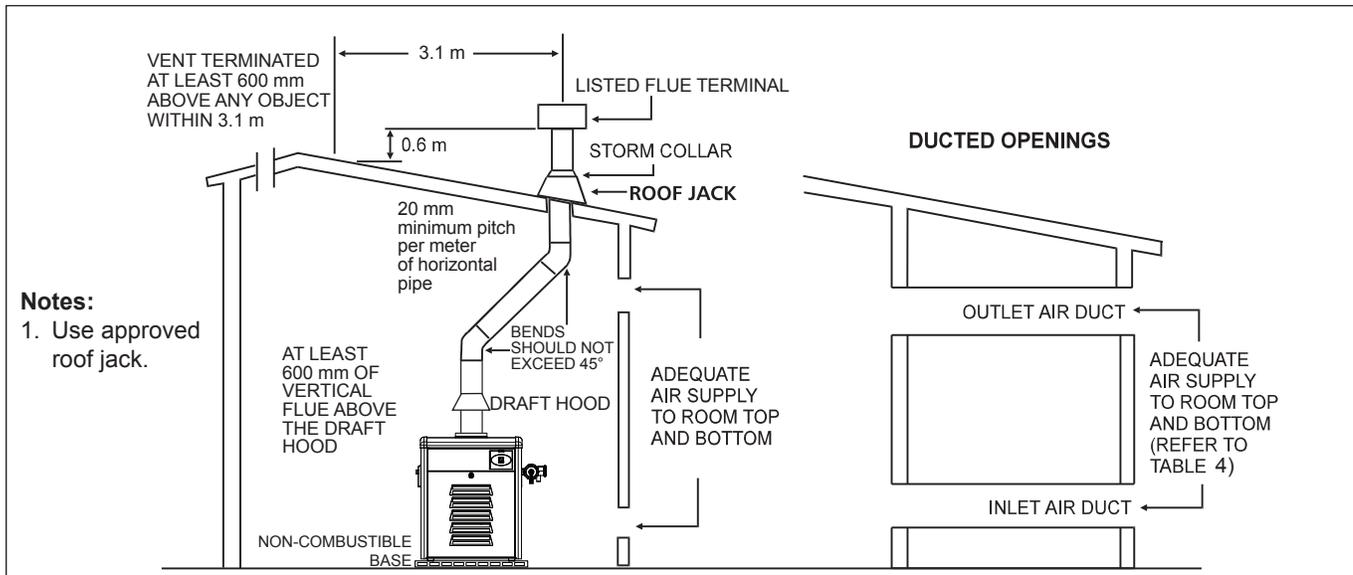

Figure 4. Indoor Installation Venting or Outdoor Shelter Venting
In general, the room in which a heater is installed should be provided with two (2) permanent air supply openings; one (1) within 300 mm of the ceiling, the other within 300 mm of the floor. All indoor installations must have uninterrupted openings to outside air for combustion, ventilation, and dilution of flue gases from inside the building, see Figure 4 and Table 4. Zodiac does not recommend indoor installations that do not provide combustion air from outside the building.
This heater is a natural draft appliance that must be installed with a draft diverter. This heater is not suitable for use with a balanced flue. Connect the draft diverter to a flue system of at least the same diameter, and end at least 0.6 meters above the highest point of the roof or other object that is within 3.1 m of the vent. Install a certified terminal which allows a full equivalent opening for flue products, see Figure 4. There must be at least 600 mm of vertical flue above the draft hood. Bends in the flue should not exceed 45° to the vertical.
The draft hood outlet is to be connected to an unobstructed vent pipe of the same diameter, terminating outside the building. The vent must terminate at least 0.6 m above the highest point of the roof or other object that is within 3.1 m of the vent termination. The vent pipe must have a listed vent cap which allows a full equivalent opening for flue products, see Figure 4. The top of the vent cap must be at least 1.5 m in vertical height above the draft hood outlet.